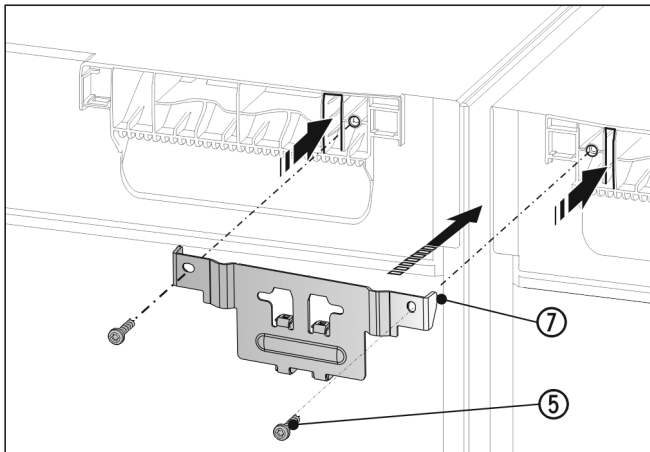

Fig. 19
- ▶ Slide the bracket Fig. 19 (7) onto the appliance ceiling with the lugs and with the spacer between the appliances. Screw in firmly with 2 screws Fig. 19 (5).